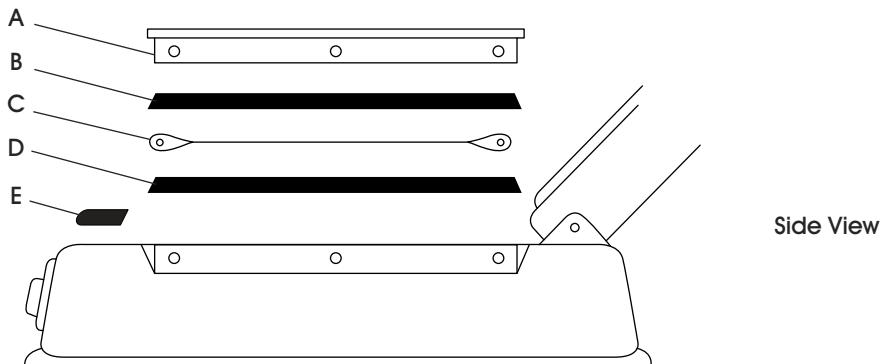

Figure 1
1. Remove screws along with the cover plates (A) and top PTFE cover (B). Remove heating element cover (E). Remove element (C) from terminal posts. (See Figure 1)
2. If bottom adhesive PTFE tape (D) is worn, burned or ripped, it needs to be changed. PTFE tape keeps the element insulated from the sealer housing to ensure proper sealer operation. (See Figure 1) If this tape is not worn, go to step 5.